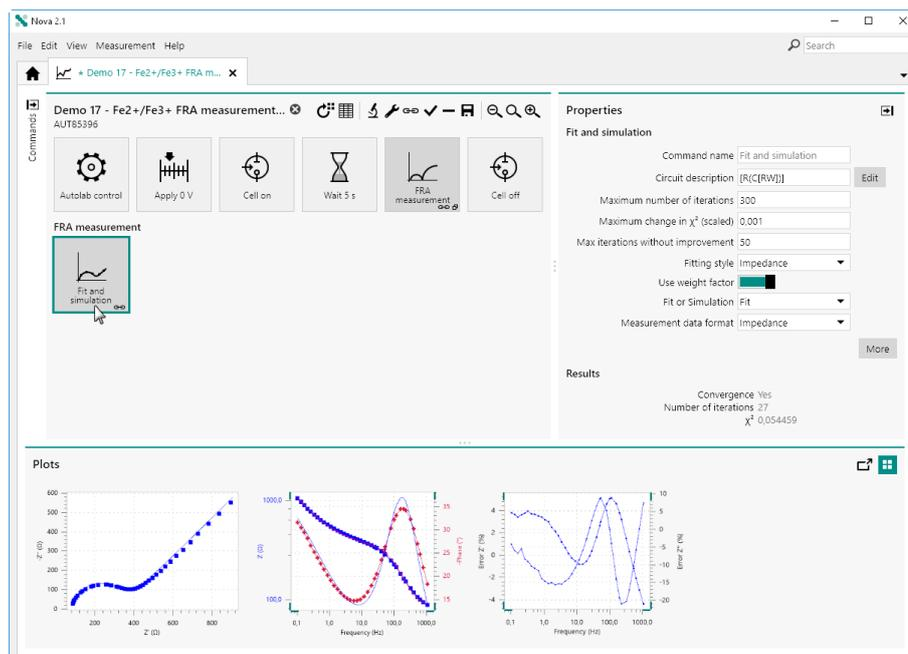

Figure 983 The data is fitted or simulated
- **By closing the editor:** clicking the OK button in the **Equivalent Circuit Editor** window closes the editor and triggers the calculation to run using the specified properties. The fitted or simulated data will be plotted (see *Figure 983, page 799*).